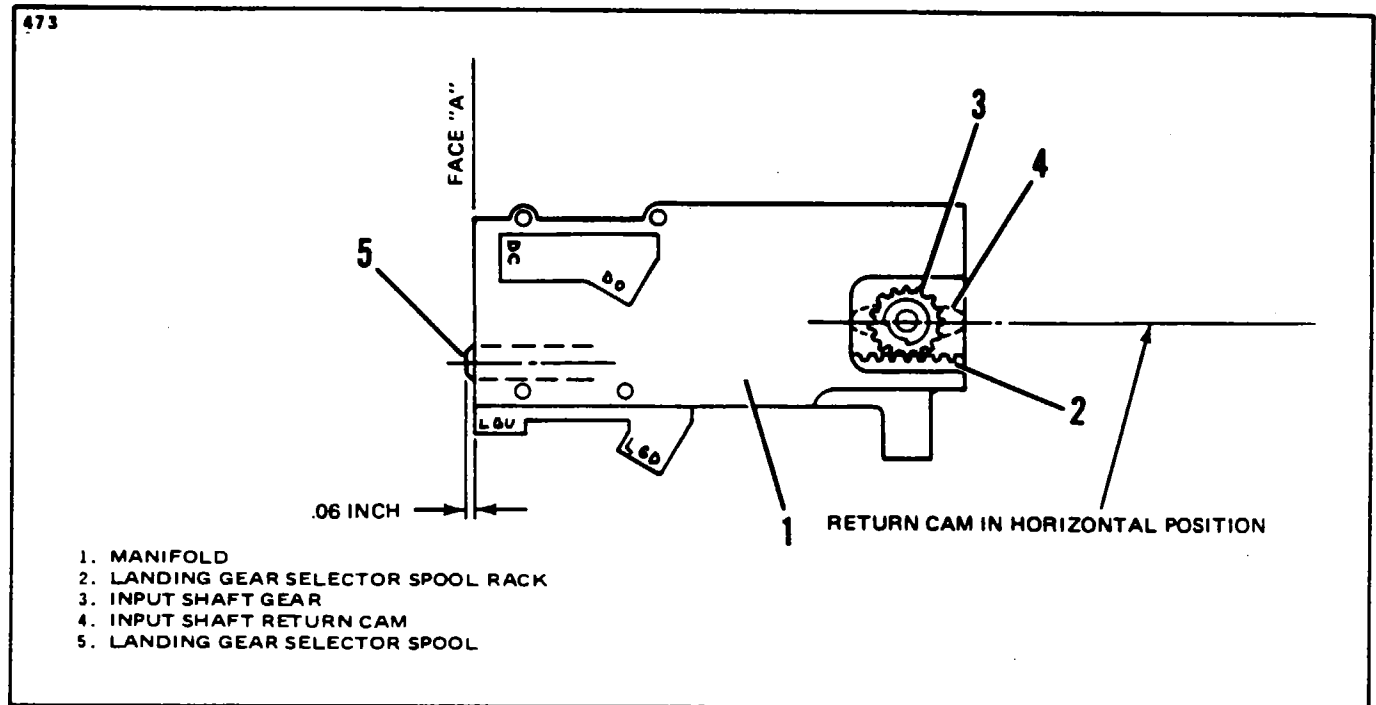

Figure 6-17. Indexing of Selector Spool (Wiebel Tool)
When mating the manifold with the Power Pack body, index the landing gear selector spool rack with the input shaft gear as shown in Figure 6-17. With landing gear selector spool (5) protruding .06 inches from face "A" of manifold (1) and the input shaft return cam (4) in the horizontal position, tooth of input shaft gear (3) will match with toothspace in the landing gear selector spool rack (2).
- d. Install the four manifold attaching bolts and torque to 35 inch-pounds. Do not over torque bolts as this will cause binding of the landing gear selector spool (17).
- e. Lubricate "O" ring (22) and "O" ring (24) and install on plunger (23).
- f. Install plunger (23) and lubricated spring (25) into manifold (35).
- g. Lubricate threads of retainer (26), install into manifold (35). Torque to 25 inch-pounds and safety wire retainer (26) to manifold (35) using wire (47).